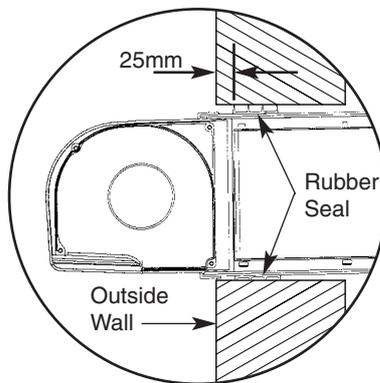

Fig. 12
5. Measure the total wall thickness. The outer of the two rubber seals is adjustable and should be set in a position that is 25mm in from the outer face of the external wall (Fig. 12).